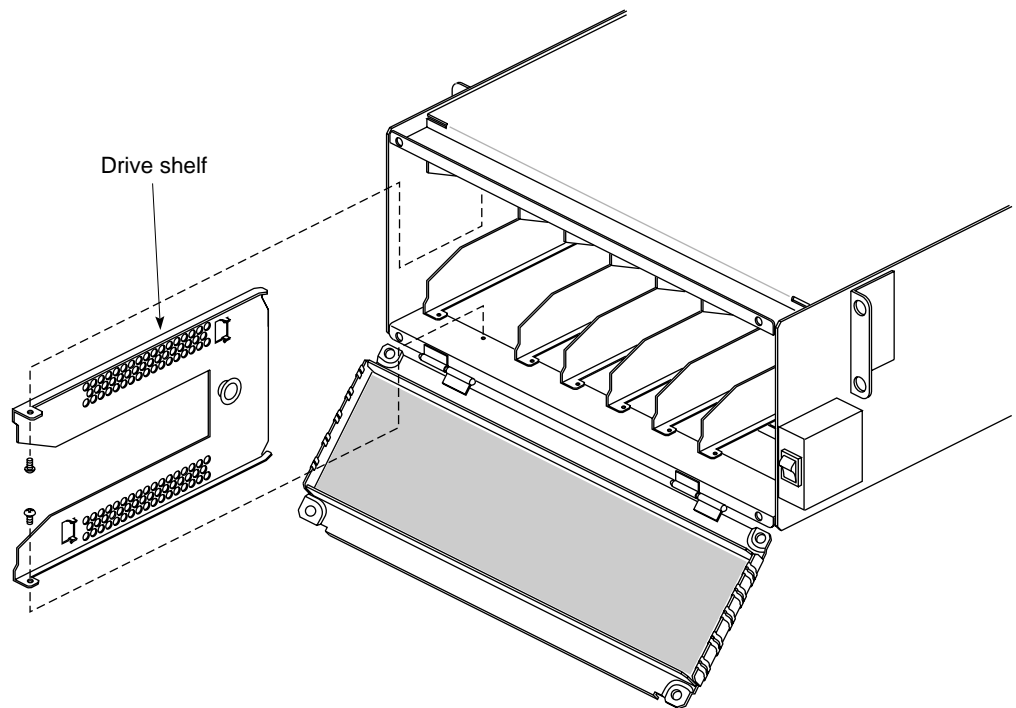

Figure 3-3 Removing a Drive Shelf from the SCSIBox 2
2. Select a drive shelf for removal, then remove the two screws that secure the drive shelf to the top and bottom of the SCSIBox 2 chassis (see Figure 3-3).